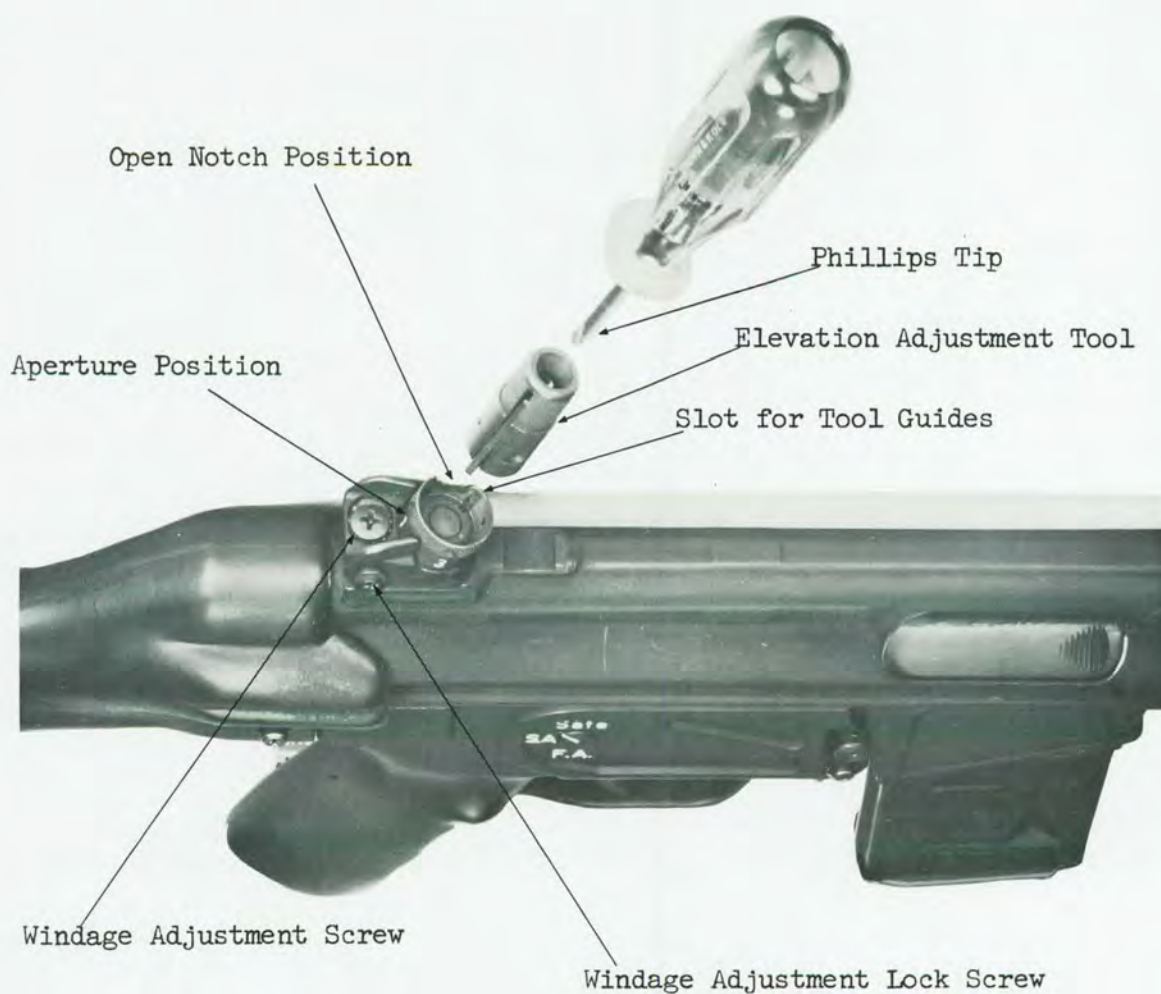

Fig. 3 Sight Adjustments
a. A four position rotary rear sight, adjustable for elevation and windage, is located on top of the receiver (fig. 3). The four positions include an open notched auxiliary and three aperture positions.
b. Initial sighting-in adjustments are accomplished with use of a special tool provided with each rifle (see fig. 3).
d. Initial elevation adjustments are made by inserting blunt end of tool into the recessed top of sight (fig. 3), and rotating until spring loaded guides line up in respective slots. With the Phillips tip inserted in top of tool, the body of the sight is rotated counter-clockwise to raise sight and clockwise to lower sight. Each click (1/4 turn) moves the point of impact approximately one inch at 100 meters. Once adjusted for a known distance, the sight can be rotated to the other three relative positions without use of the tool.